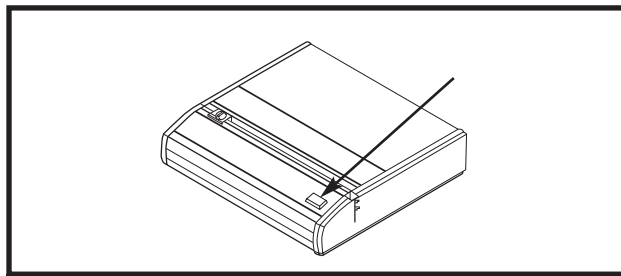

Figure 4
- To punch, press the PUNCH * button (See Figure 4) or the FOOT PEDAL. The Model 2000 punches up to the following sheet capacity of 20-lb./80 gram paper at once. When punching other materials, lower the sheet counts. Punch only TWO clear covers at a time to prevent jams and excessive wear.